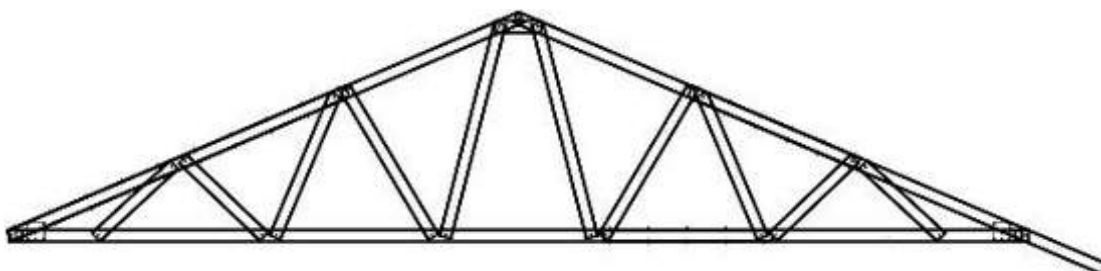

Figure 5.4 Girder Truss
5.3) Girder Truss: A structural truss at the end of a roof block that supports incoming trusses from an adjoining block (bridge trusses). A girder truss may replace a supporting wall or beam. It can be used to support bridge trusses and may be used in lieu of an internal load bearing wall or beam (Refer to **Figure 5.4**). A girder truss may be either a single truss or a pair of trusses installed lip to lip.